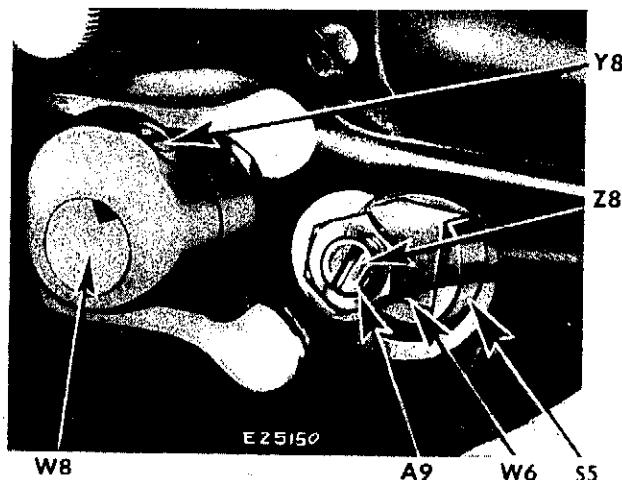

Fig. 159. X-ray View of Block and Slide
2. Loosen set screw **Y8**, Fig. 159 and remove cam from shaft **W8**.
4. Lift fork from machine while guiding slide block **W6**, Fig. 159 from slide.
1. While guiding the two bright bearing surfaces of slide block **W6**, Fig. 159 into slide **S5** on bight mechanism, be certain shaft **W8** is between prongs of vibrator fork.
3. Set cam on shaft **W8**, Fig. 159 with set screw **Y8** over the notch in shaft and two edges of fork over the cam surface.
4. While pressing cam in Fig. 159 toward fork, push gear in Fig. 160 toward cam with a screwdriver to eliminate excessive play and noise. Securely tighten set screw **Y8**, Fig. 159 without binding machine. If machine binds, reset cam.